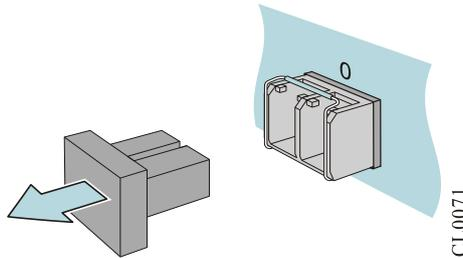

FIGURE 4-12 REMOVE DUST CAP OF THE SFP MODULE
Step 3: Remove the dust cap of the SFP module, as shown in Figure 4-12.